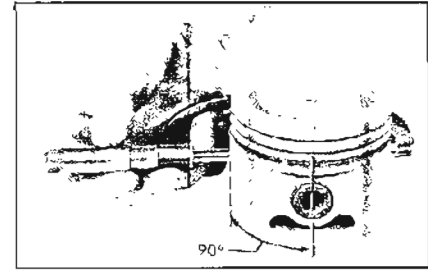

Figure 2-45—Measuring Piston
Neoprene composition seals are placed in grooves in the sides of bearing cap to seal against leakage in the joints between cap and crankcase. The neoprene composition swells in the presence of oil and heat. The seals are undersize when newly installed and may even leak for a short time until the seals have had time to swell and seal the opening. See Figure 2-45.
Before the honing or reboring operation is started, measure all new pistons with micrometer contacting at points exactly 90 degrees to piston pin (Figure 2-45) then select the smallest piston for the first fitting. The slight variation usually found between pistons in a set may provide for correction in case the first piston is fitted too free.
3. Measure the piston to be installed. See Figure 2-45. The piston must be measured at right angles to the piston pin 1/4" below the oil ring groove. The piston must be between .001" and